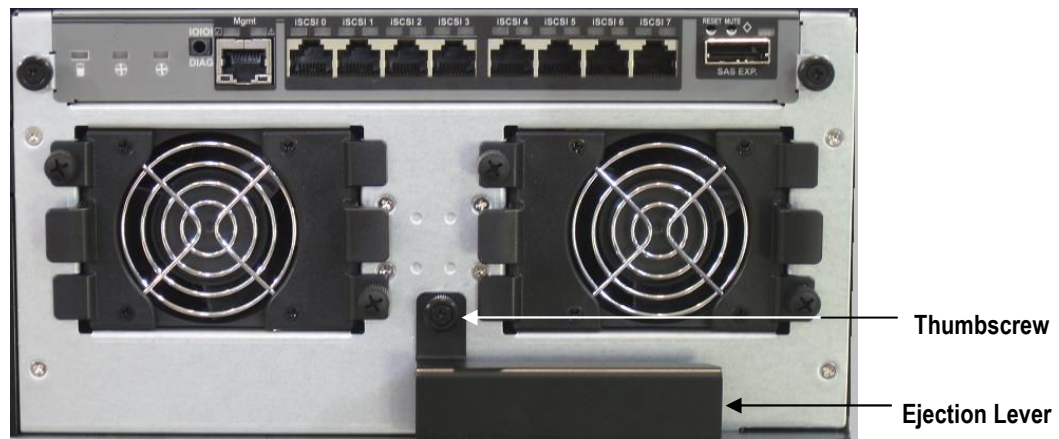

Figure A-3. Removing the Controller Module on the Primary Array
3. On the controller module, loosen the thumbscrew, swing the ejection lever to the right and pull the Controller Module out of the enclosure (see Figure A-3).